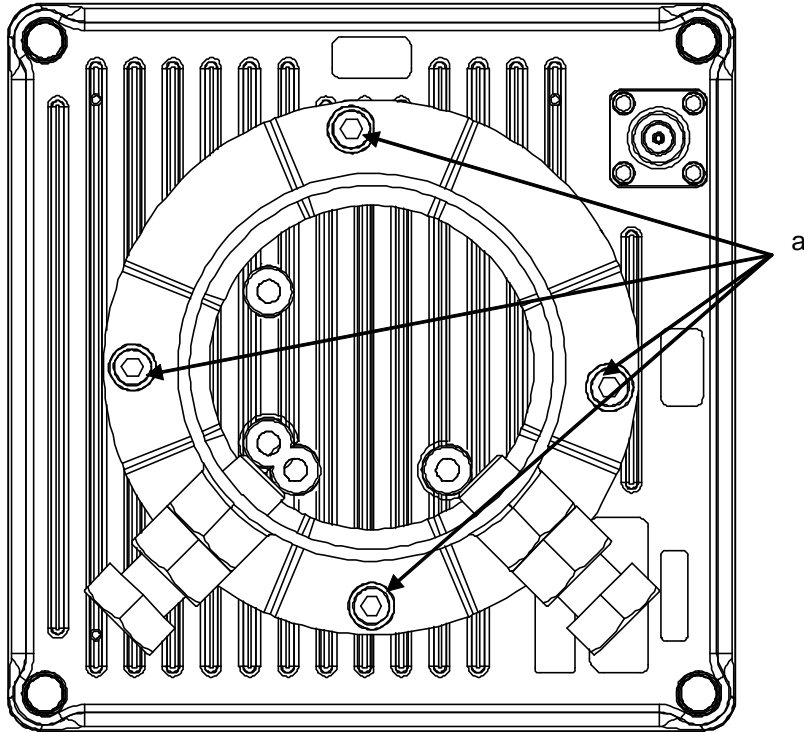

Figure 5-1 Installing the Mounting Bracket on the AP-RFU (Omni Antenna)
Secure the AP-RFU (omni antenna) to a pole using the bolts (a), as shown in Figure 5-1.
- (1) As shown in Figure 5-1, install the AP mounting bracket on the AP-RFU and tighten the bolts (a).